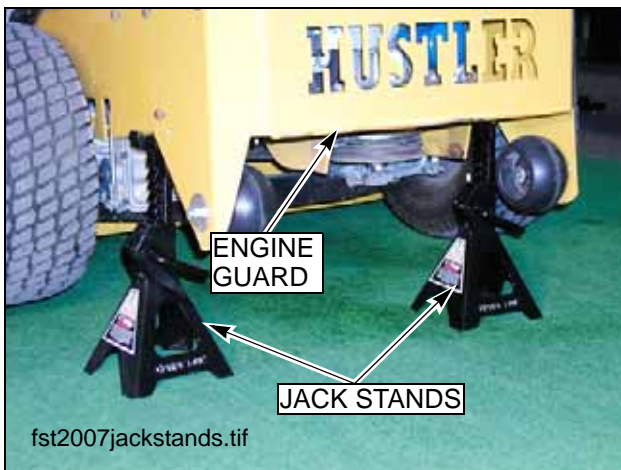

FIG. 37
1. Park the unit on a flat surface, raise the rear of the tractor and block with certified jack stand. With the park brakes set, start the engine (FIG. 37). Once the engine is started, if the ZTs whine while the park brake is engaged, then neutral needs to be reset. Turn off the engine.